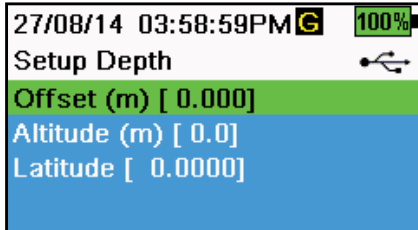

Figure 40 Setup Depth
Offset: Depth offset can be used if referencing water elevation against a known datum. If a depth offset is entered (in meters), the output value will shift by the value of the offset (Figure 40).
1. If applicable, enter the depth offset, altitude, and latitude (Figure 40).